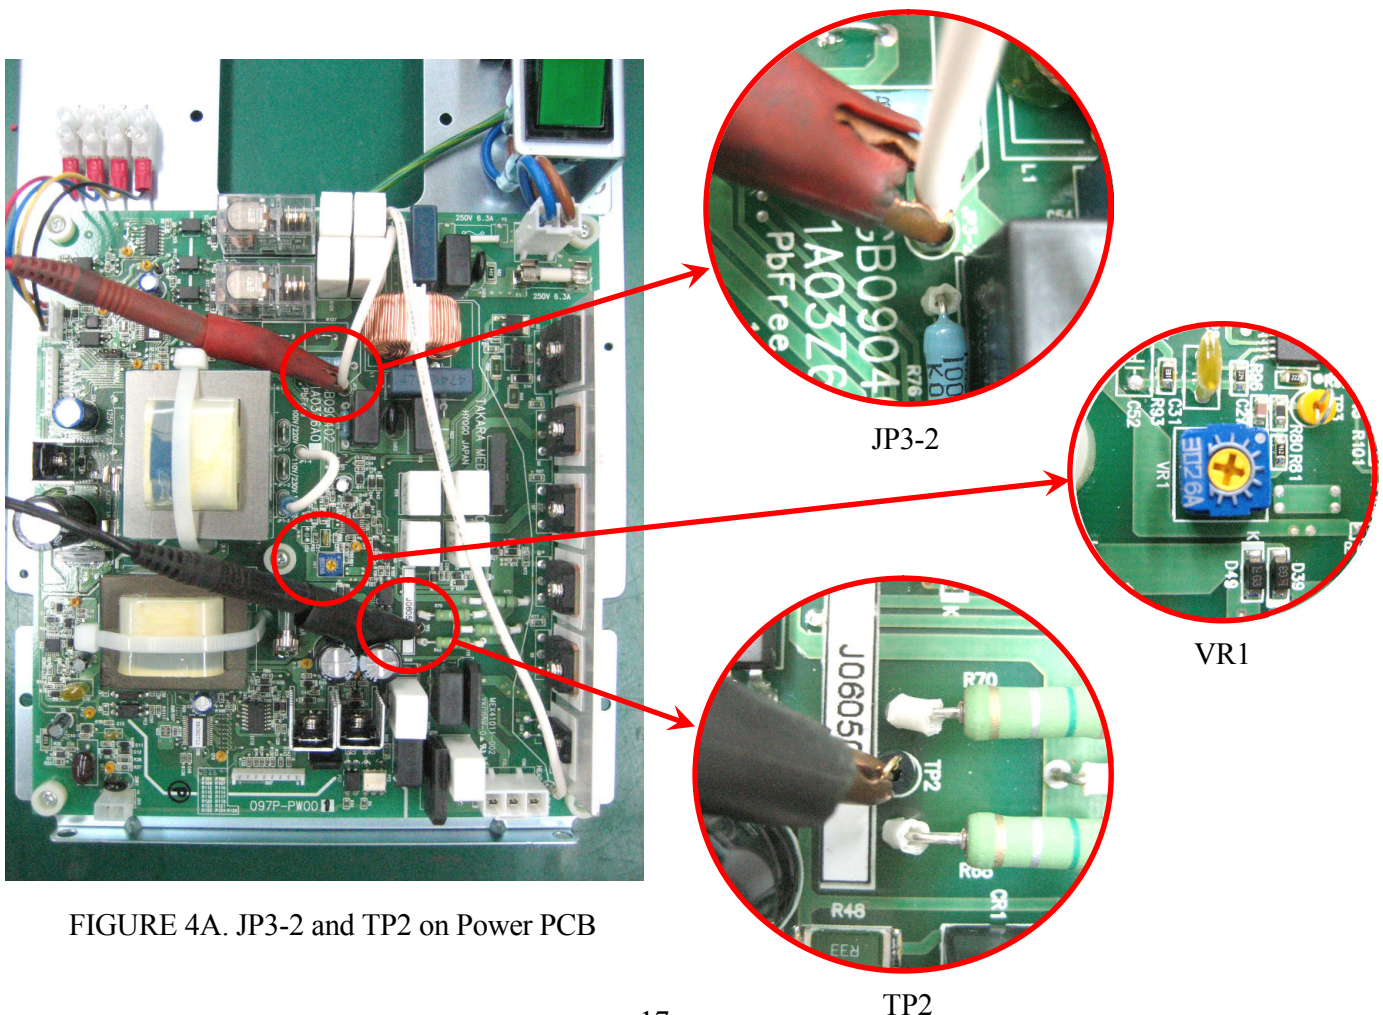

FIGURE 4A. JP3-2 and TP2 on Power PCB
3. Open the front panel of the main controller and place one lead of multimeter to JP3 - 2 on the power PCB and other lead of multimeter to "TP2" a wire ring test terminal on the power PCB. (Refer to FIGURE 4A.)